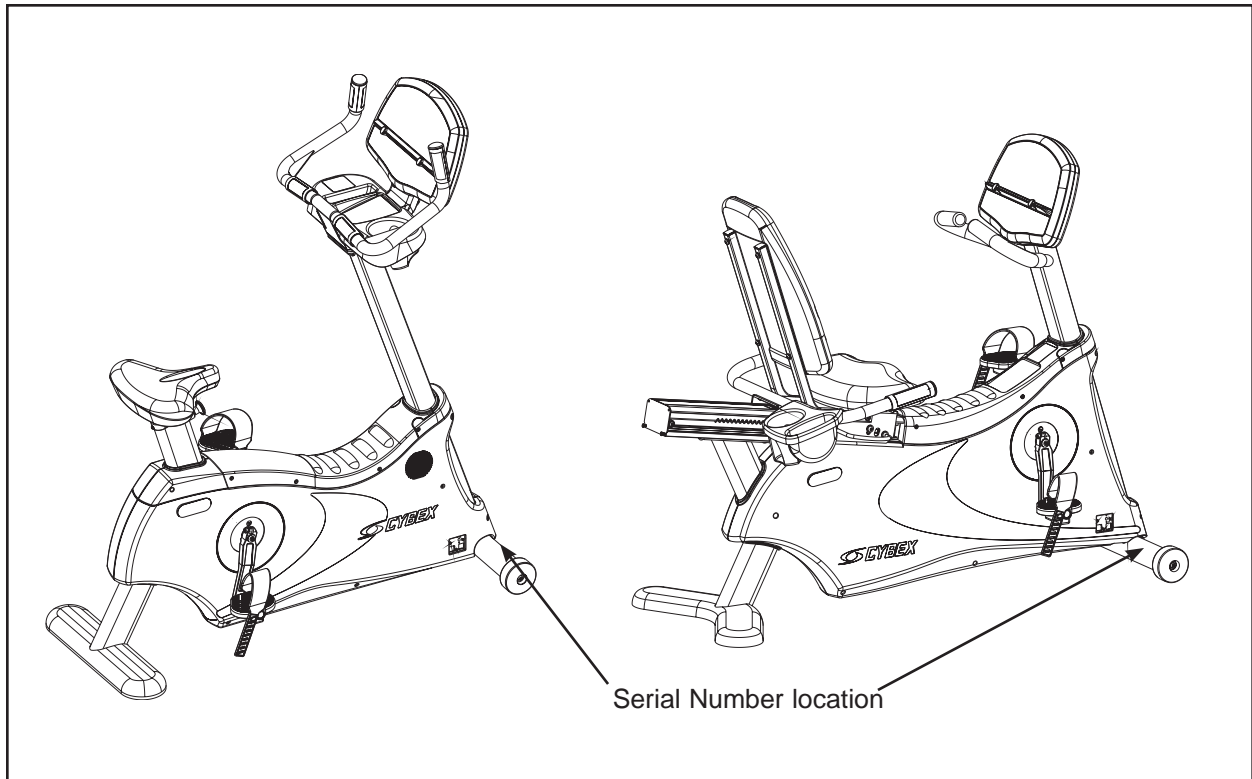

Figure 1
Your serial number can be found on the front end of the unit, See Figure 1.
3. Provide the model and serial number. *The serial number is located on the front of the unit as shown in Figure 1.* The serial number begins with a letter, for example: R09-101331100.